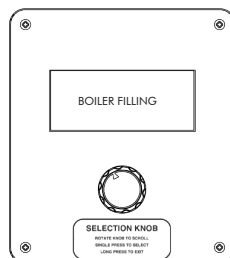

fig. no.23.2
• **BOILER FILLING** (fig. no.23.2)